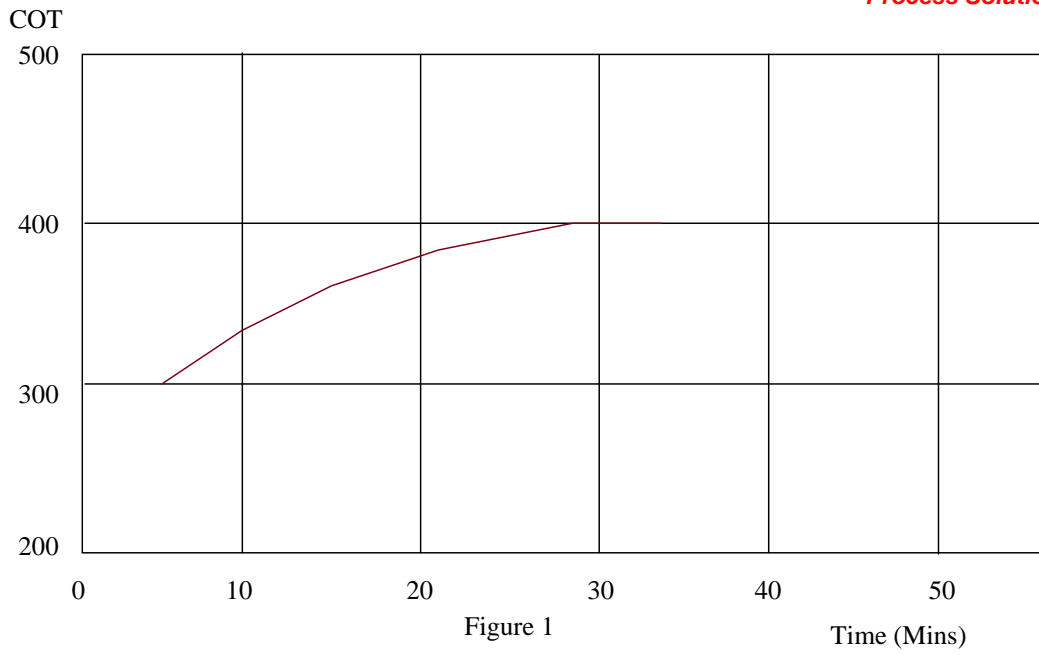

Figure 1
- Using both of the methods in the lecture (63.2% and 80/20 method) calculate the process dynamics for the responses in fig 1. The response is that of a heater coil outlet temperature to a step change in fuel gas flow of 50 m³/h